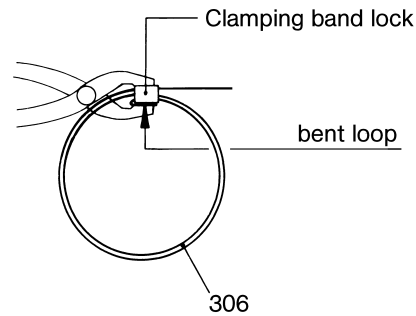

Figure 8: Press clamping band loop against clamping band buckle.
- Mount cover sleeve (308) with screw driver, lift top with screw driver, run spray pipe of the oil can under the sleeve and fill the space in the joint with Allweiler Spezialgelenköl Type B or Öl ET 15 10 ISO 460 of Tribol Lubricants GmbH, Mönchengladbach, Germany. If used for foodstuffs, with Allweiler Spezialgelenköl Type BL or Öl 1810 / 460 of Tribol Lubricants GmbH, Mönchengladbach, Germany. Lubricant quantity see table, Section 7.1.2.6 above.
- Check whether bent loop of the clamping band (306) rests against the clamping band buckle. If not, press against by means of commercial flat pliers (please refer to Figure 8 below).